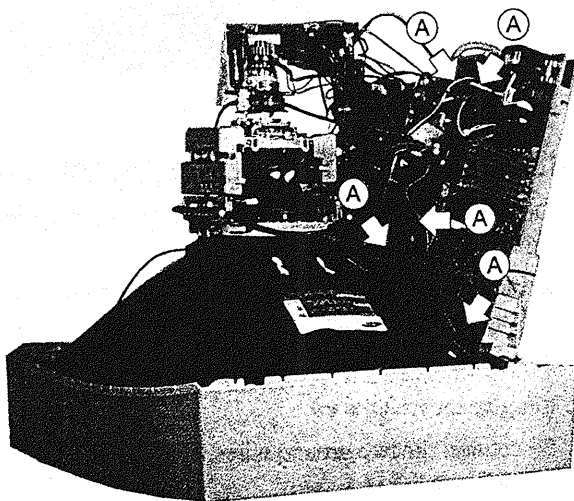

Figure 2-6
3. Disconnect the five connected pins from the main board. Refer to the figure 2-6 (A).